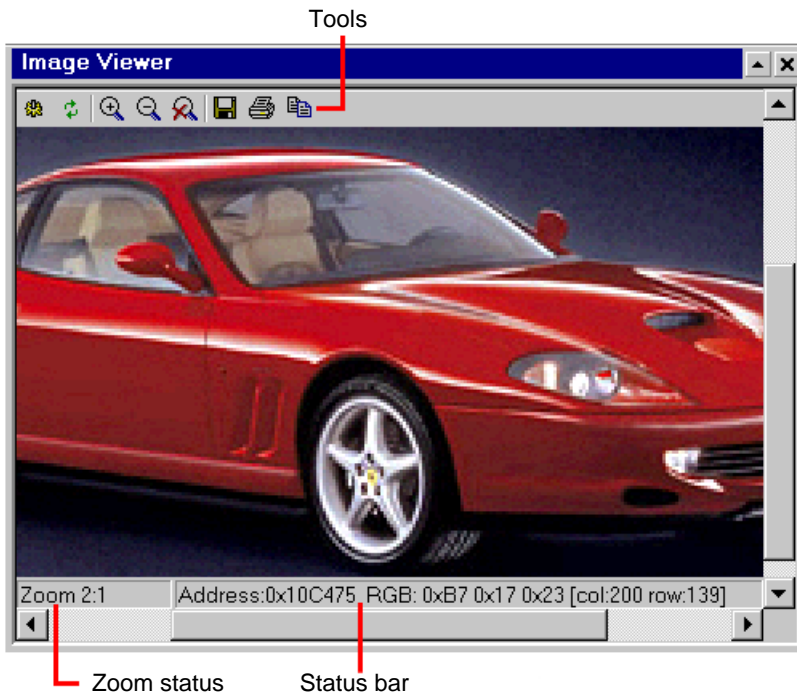

Figure 2-81. Image Viewer Window
**Figure 2-81** shows a typical **Image Viewer** window. The status bar indicates the DSP address, RGB values, and pixel coordinates.